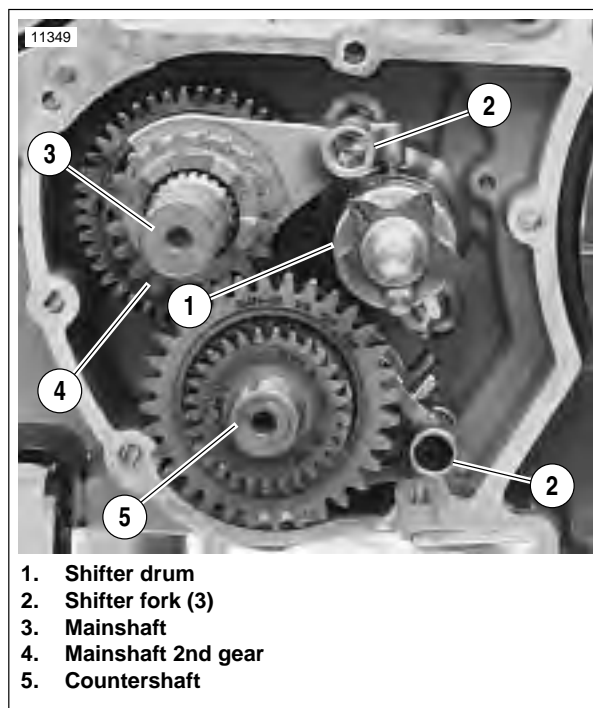

Figure 6-57. Transmission Assembly
- See Figure 6-57. Remove shifter drum (1) and shifter forks (2). Mark each shifter fork as it is removed, so it can be reinstalled in the same location.